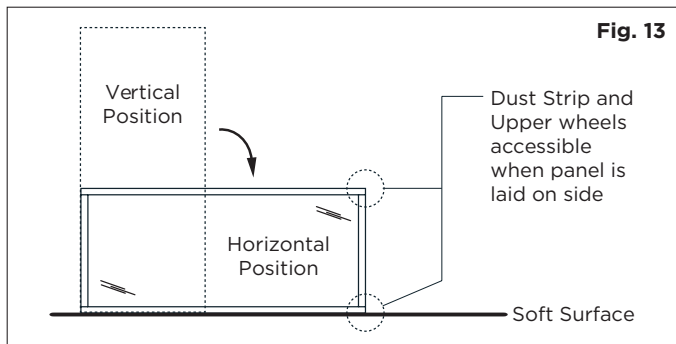

Fig. 13
2. Lay the panel in the horizontal position on a soft surface. See Figure 13.
2. With the panel lying on its side (Figure 13), insert the small white glider rollers into the slots on the top corners of the panel. The wheels should point inward sitting on the panel, not outward and hanging off. See Figure 16.